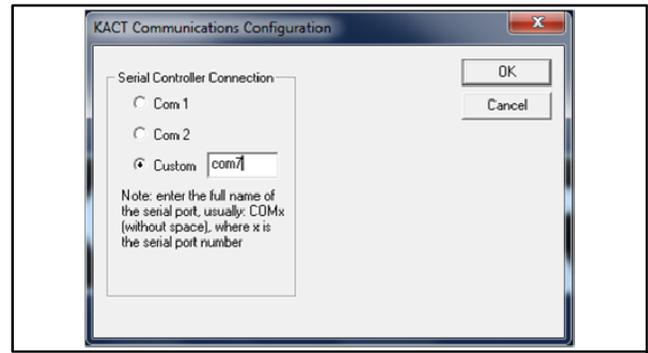

Figure 14 KACT Communications Configuration
4.12 Find the COM port that the USB is plugged into. See Figure 14. Then select "OK".